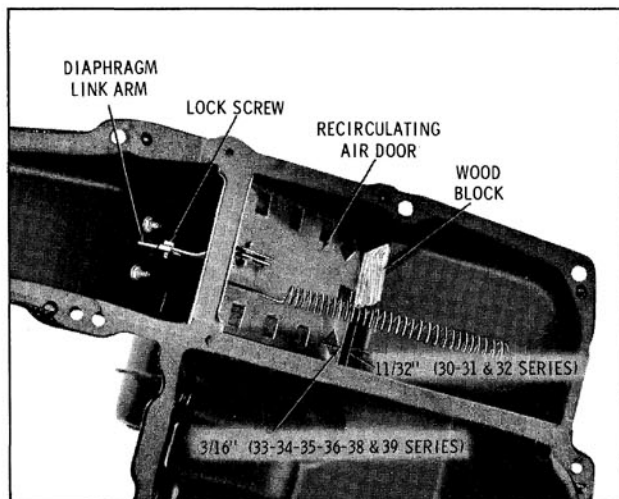

Fig. 14-74 Recirculating Air Door Adjustment
1. With vacuum applied to the upper port, the recirculating air door should be opened 3/16" on 33, 34, 35, 36, 38 and 39 series and 11/32" on 30, 31 and 32 series. (Fig. 14-74)